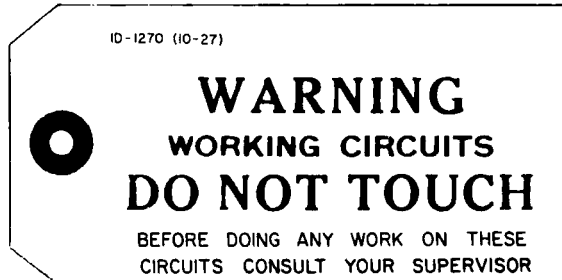

FIG. 2 ID-1270 WARNING TAG (WHITE TAG - RED LETTERS) (PAR. 2.23)
2.23 When a fuse panel is first made alive hang a Warning Tag, ID-1270 (Figure 2) on the panel, and if the panel is located in such a way as to subject the equipment on the panel to danger of short circuit, erect sufficient protection around the panel to safeguard the live equipment from passing ladders, etc.